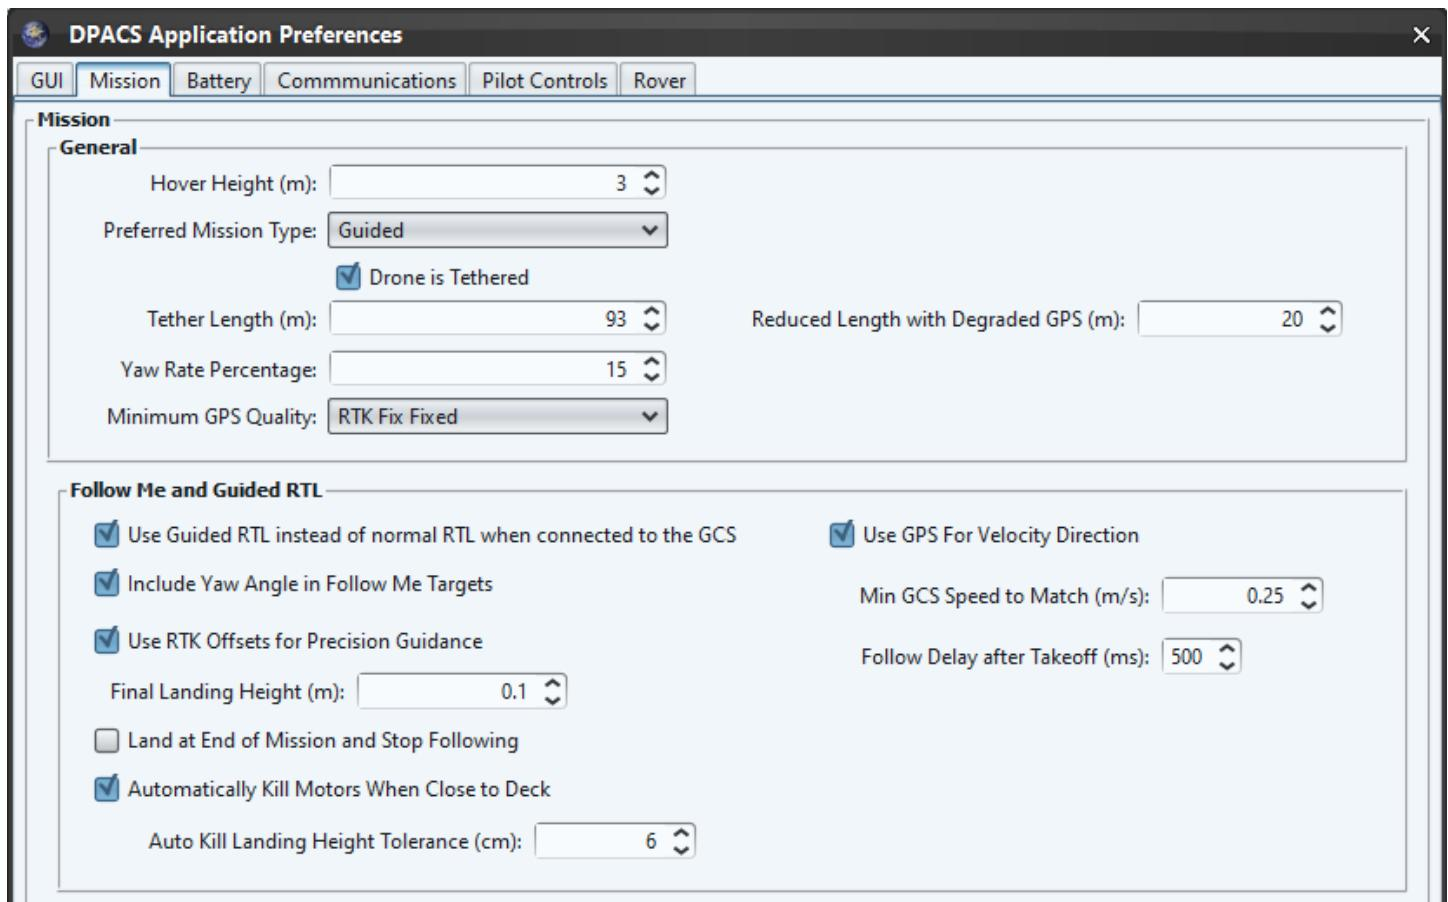

Figure 40 – Guided RTL preferences
18. If you want to RTL while moving, ensure that the “Use Guided RTL instead of normal RTL when connected to the GCS” option shown in Figure 40.
19. When Fly Home (RTL) is selected, this mode will raise the drone to the RTL altitude and then fly to the original takeoff position relative to the GCS. Guided RTL will then lower the drone at the high altitude land rate and then reduce the landing speed to the low altitude land rate land when it hits the low altitude landing setting.⁴ Once the altitude is at the “Final Landing Height” shown in Figure 40, the mode will switch to “Land”. If the drone does not appear to switch to landing mode click the Land button (Ctrl+L) and then Ctrl+Q once the drone touches the ground to avoid any mishaps while moving. For situations where the drone is landing on a moving platform like a ship, it is advisable to select the